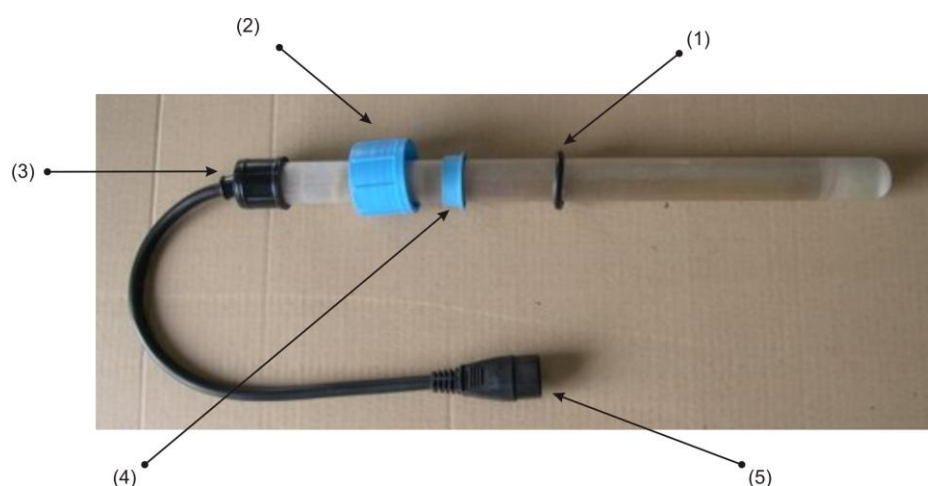
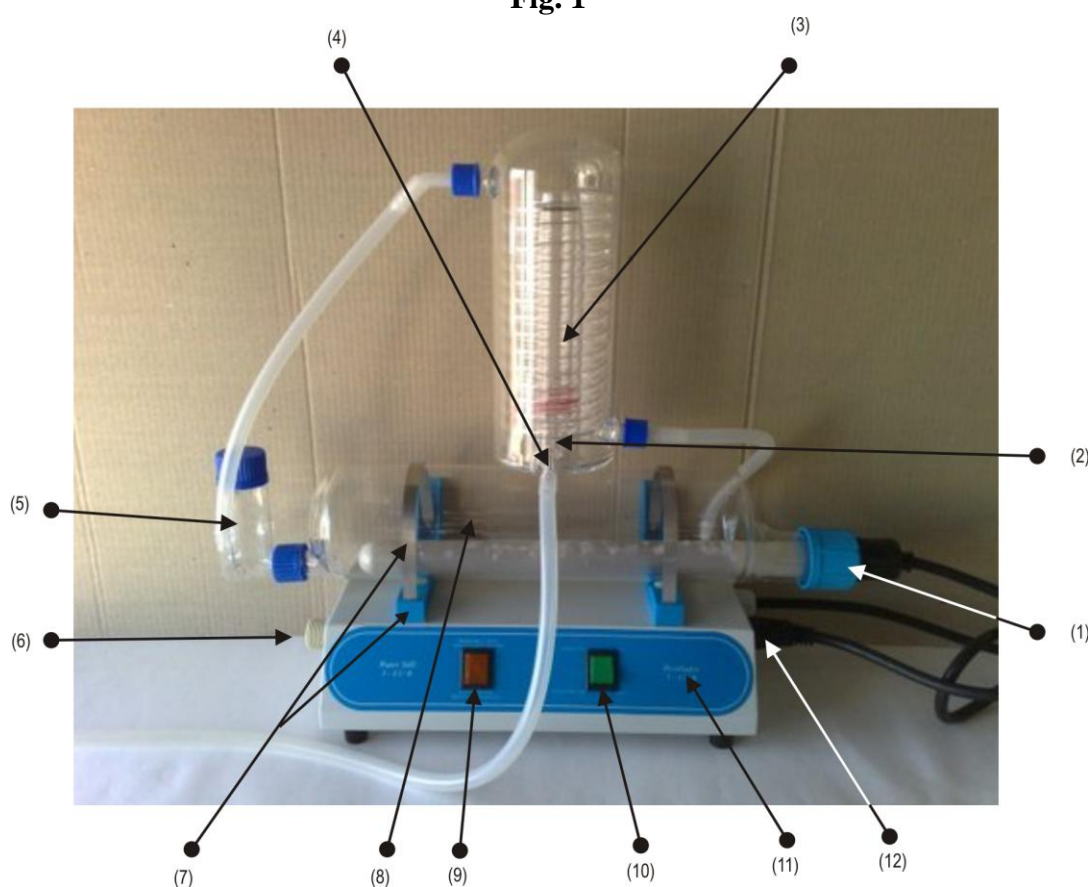

Fig. 1
Fig. 2
1. Be sure that heater elements (washer of silicone rubber, guide fitting and PBTB nut) are in the order and position that the fig. 1 shows.
2. Insert the heater through the screw mouth (see fig. 2); hold the heater of the fitting (fig. 1, piece 3) and turn the PTPB nut (fig. 1, piece 2)
4. Put the water inlet tube on the inlet still (fig. 2, piece 6)